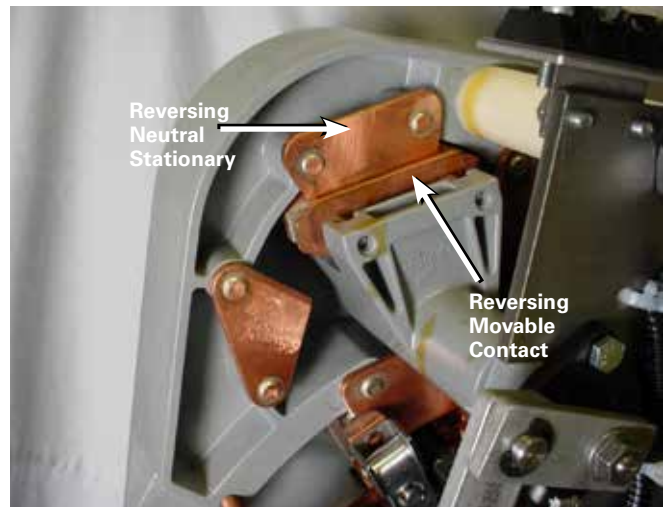

Figure 27. Neutral position for reversing movable.
- B. The reversing movable contact is located on the reversing neutral stationary contact. See Figure 27.